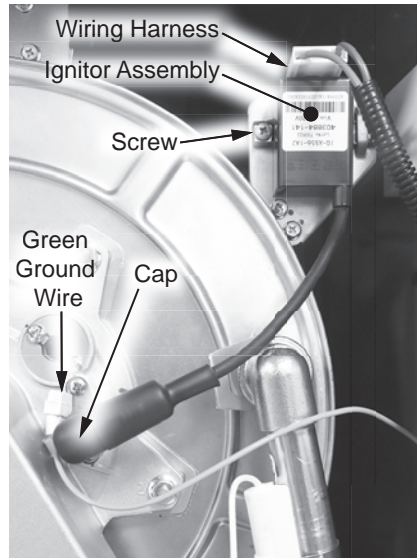

Figure 79 - Ignitor assembly location
- 4** Locate the ignitor assembly on upper right side of the water heater. See Figure 79.
- 5** Disconnect the cap from the ignitor rod. See Figure 79.
- 6** Disconnect the wiring harness from the ignitor assembly. See Figure 79.